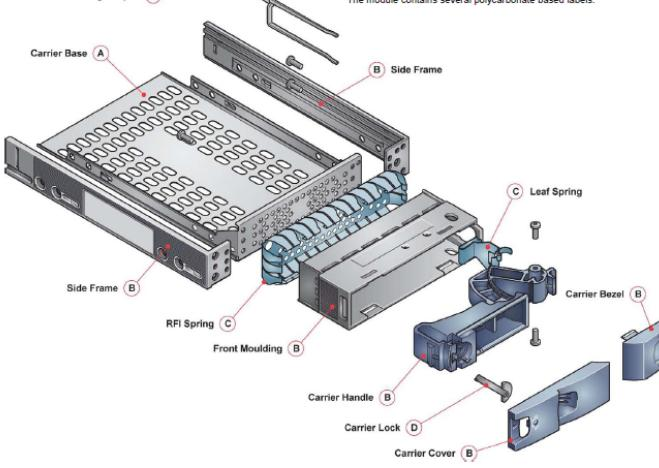

Figure 6: Exploded View of Drive Carrier Module
Using drills and screwdrivers as appropriate to remove rivets and screws, dismantle the Drive Carrier Module as indicated in Figure 6.
- Using drills and screwdrivers as appropriate to remove rivets and screws, dismantle the Drive Carrier Module as indicated in Figure 6.